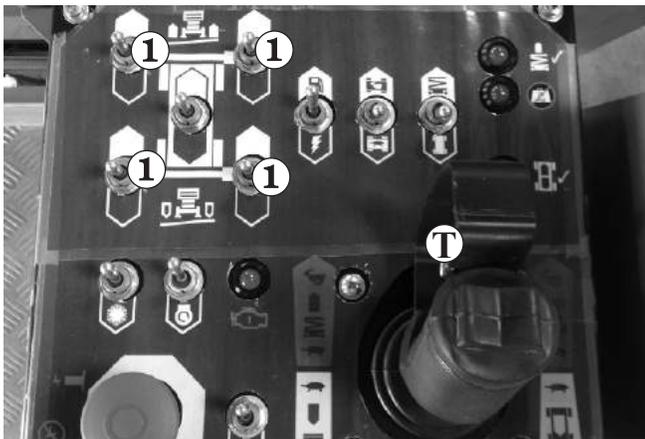
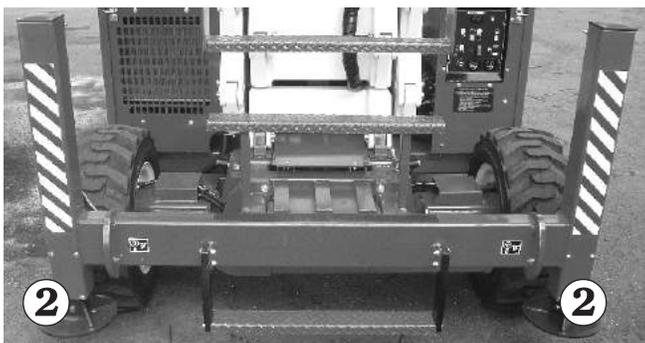

Figure 8.11
Figure 8.12
2. Pull and hold the **Stabiliser** switches ① (see Figure 8.11) backward, one (1) at a time, until all four (4) stabiliser pads ② (see Figure 8.12) contact the ground.